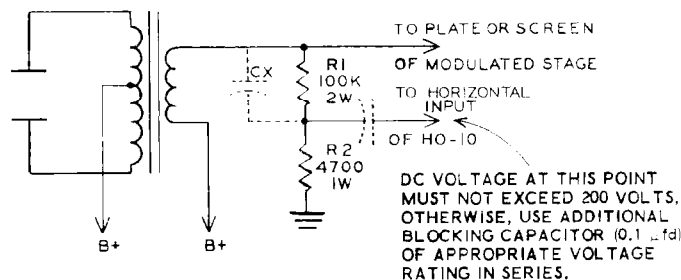

Figure 4A
4. It is necessary to obtain a sample of the transmitter audio signal where the audio modulates the RF. This point may be found at the plate or screen grid of the modulated tube. See Figure 4A. Add another 100 K $\Omega$  2 watt resistor in series for each 350 volts over 750 volts. Capacitor CX (100  $\mu\mu\text{f}$  to 200  $\mu\mu\text{f}$ ) may have to be added to compensate for audio phase shift. It should be a high voltage type, at least 2 KV for Figure 4A.